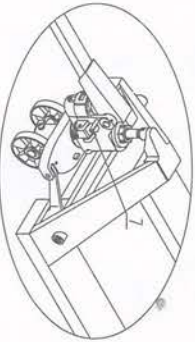

Fig. 3
- 3.6 See Fig 3, turn the hand grip to the level position, pull out pin 7 and save pin 7 with care for next use.